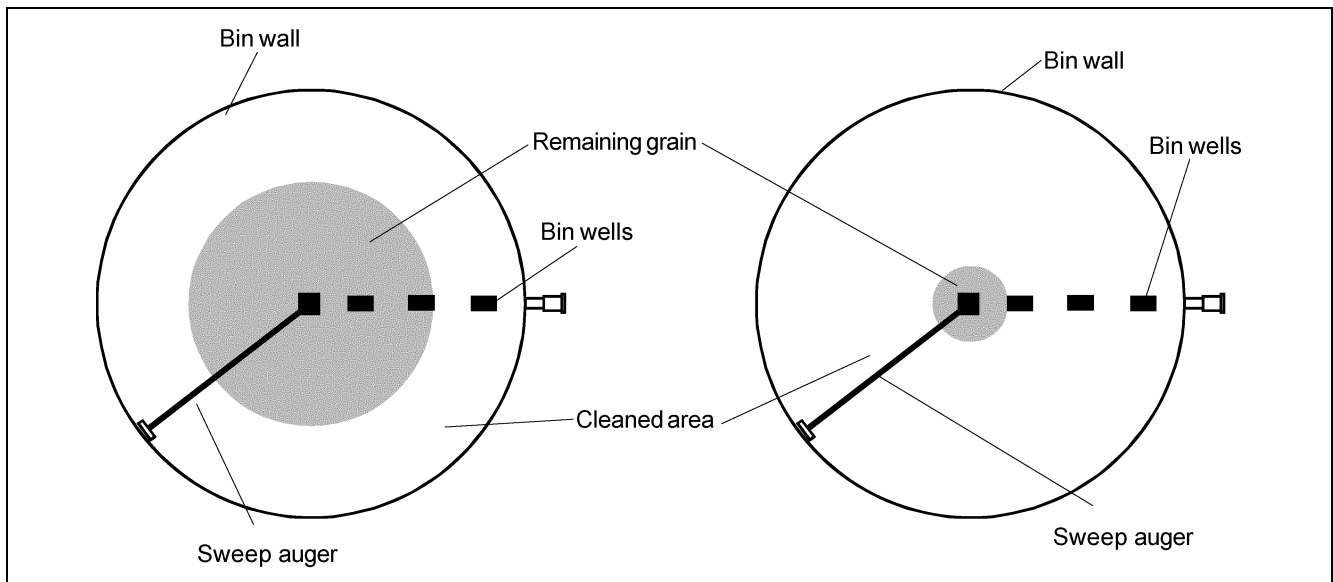

Figure 5F Top View of Bin
1. Clean (scoop and sweep by hand) the outer area of the floor into a circular pile towards the center of the bin. (*See Figure 5F.*)